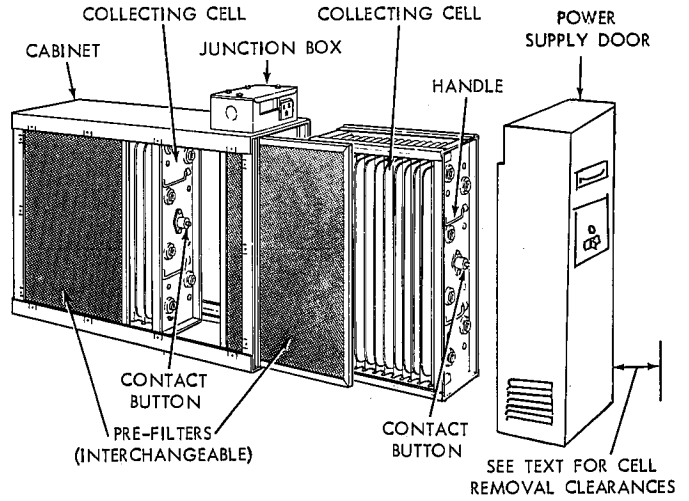

Figure 4
2. Allow the following clearances to permit removal of cells and pre-filters: (See figures 4 and 5)
Your air cleaner is shipped from the factory with air flow from left-to-right. If this air flow is suitable for the installation, no further changes need to be made (figure 4). For right-to-left air flow, remove both pre-filters and cell sections. Turn cells upside down (with the same side facing the cabinet opening). This will locate the ionizing wires at the right, and both contact buttons and cell handles will be facing the power door. Air flow direction must agree with arrow embossed on end of collecting cells.
1. Place the air cleaner on the floor. Stand it upright with the power door facing you (figure 4). If a horizontal installation is being planned, lay the air cleaner on its side, this will help you to visualize the relative location of all parts.
2. Release the latch, remove the power pack (by grasping handle and pulling door away from cabinet) and set it aside (figure 4). Remove the collecting cells and pre-filters. Set pre-filters and cells aside in a safe location until the cabinet is installed.